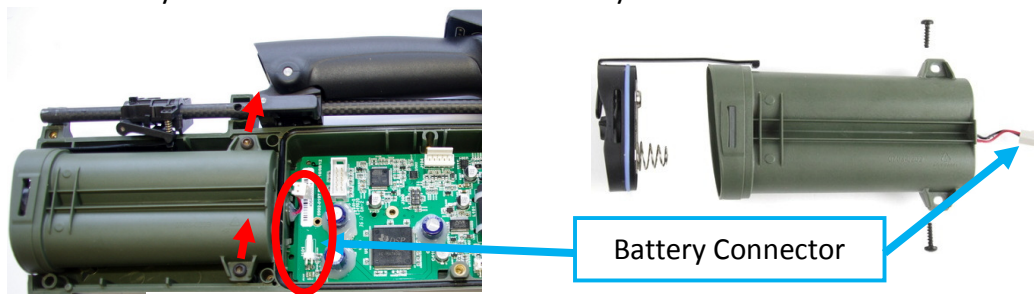

Figure 87: Replacing Battery Compartment
- Disconnect the battery connector. Figure 87.